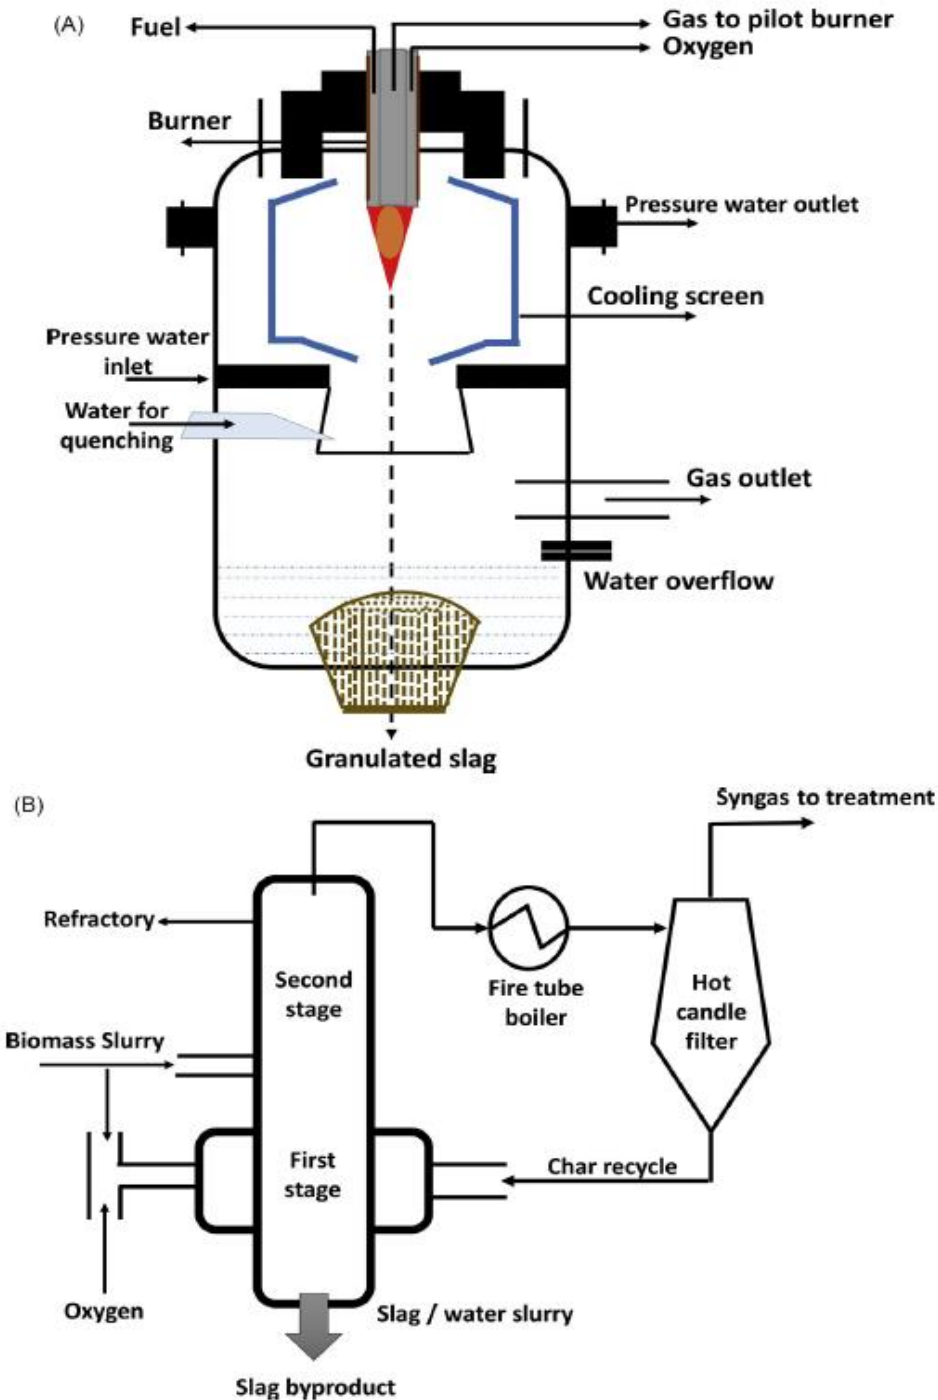

Figure-9: Top-fed entrained flow gasifier. (B) Side-fed entrained flow gasifier.
- ✓ they are basically classified into two families, namely, top-fed gasifier and side-fed gasifier as shown in the **Figure-9**, below: